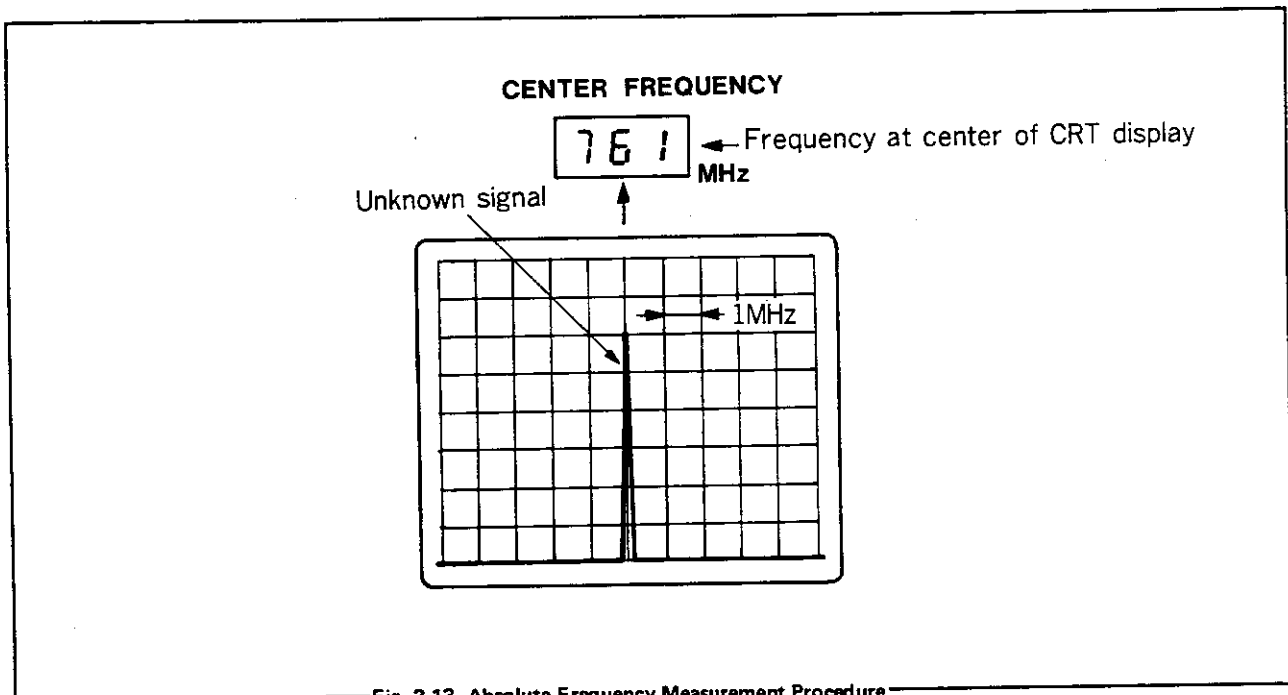

Fig. 2-13 Absolute Frequency Measurement Procedure
- c) Rotate **TUNING** to position the spectrum to be measured to the **CENTER** of CRT display. The frequency of unknown signal is now indicated on **CENTER FREQUENCY** display. The error is  $\pm 10$ MHz. [Fig. 2-13]
- (2) Measurement relative to Zero Frequency